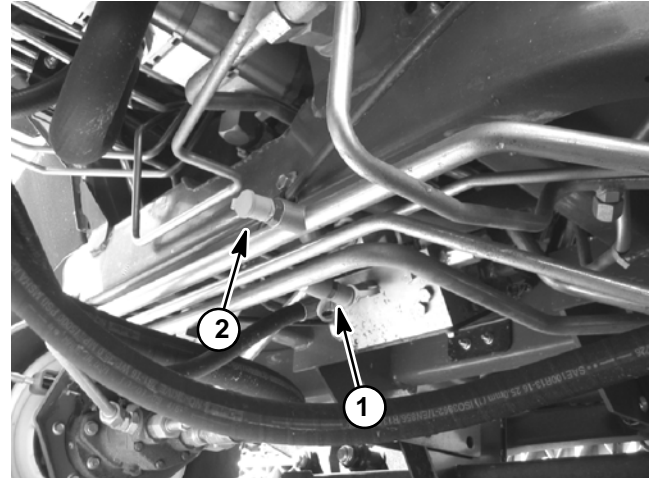

Figure 29
3. Connect a 10,000 PSI (700 bar) pressure gauge to traction circuit test port for function to be checked (forward or reverse) (Fig. 29). Test ports are located on hydraulic lines toward the front of machine. **Forward traction port faces the front and reverse port faces rearward.**